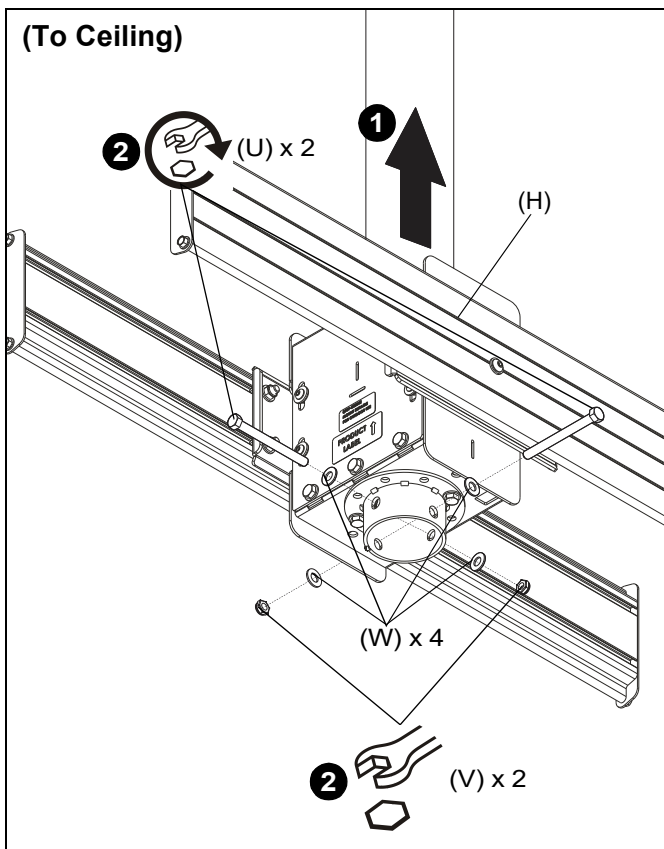
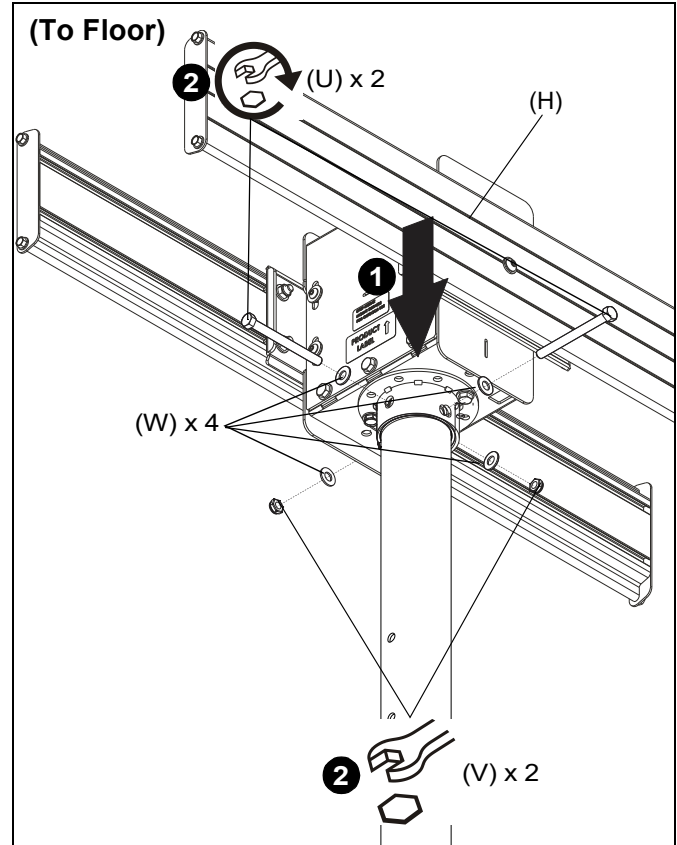

Figure 1
Figure 2
1. Slide mount assembly (H) onto ODAC Series Floor/Ceiling Column. (See Figure 1) or (See Figure 2)
2. Use two 3/8-16 x 4" hex head tapping bolts (U), four 3/8" washers (W) and 3/8-16 hex nuts (V). (See Figure 1) or (See Figure 2)